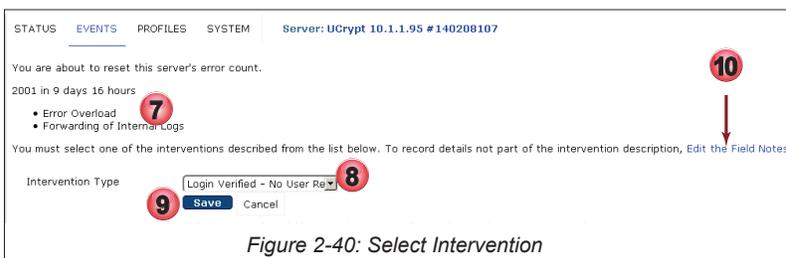

Figure 2-40: Select Intervention
7. The specific Alerts are listed for reference, Figure 2-40.